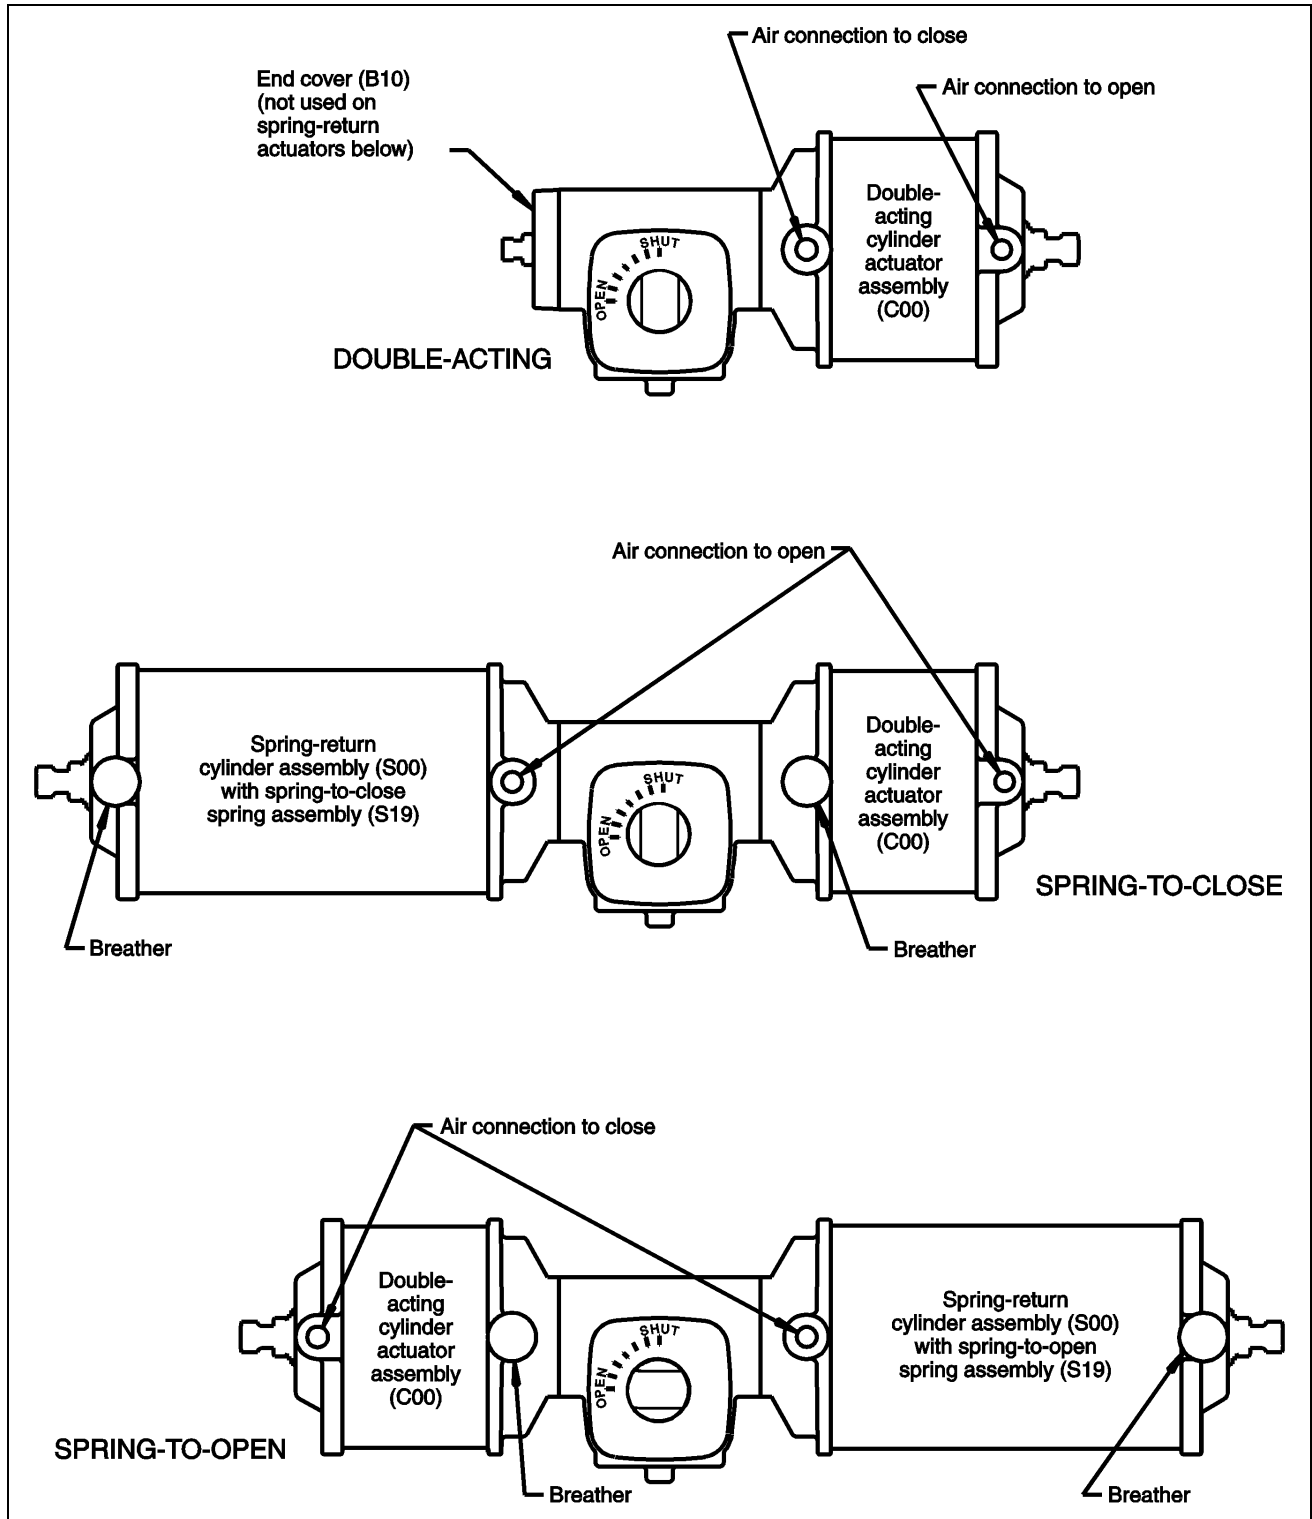

Figure 1—R1 PowerRac™ Actuator Configurations
These instructions include information for the three actuator configurations, and for changing from one to another. Refer to Figure 1 to identify the applicable configuration; refer to Figures 2 through 4 to identify the components within the configuration.
Pneumatic connections are required as shown in Figure 1, and as described below. All cylinder port connections are 1/4" NPT.
As the spring-return actuator is cycled, air is alternately exhausted and drawn in through two breathers—one on each cylinder as shown in Figure 1. The breathers must be protected from water because water inside of the actuator will cause sticking and premature wear of the internal components.
1. Loosen the jam nut on the Closed Position stop screw. See Figure 1 for stop screw identification.
1. Loosen the jam nut on the Open Position stop screw. See Figure 1 for stop screw identification.